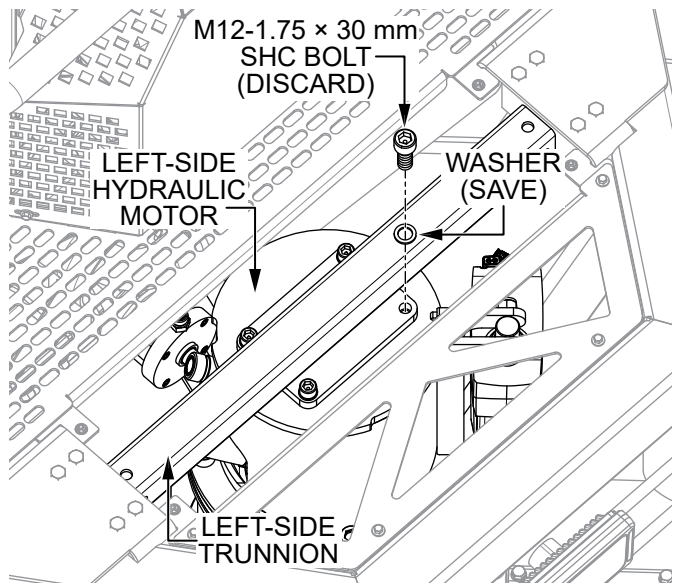

Figure 6. Remove Left-Side Trunnion Bolt
1. Remove **one** of the existing M12-1.75 × 30 mm SHC bolts (Figure 6) securing the left-side trunnion to the top of the left-side hydraulic motor. Discard the bolt but save the washer for later.